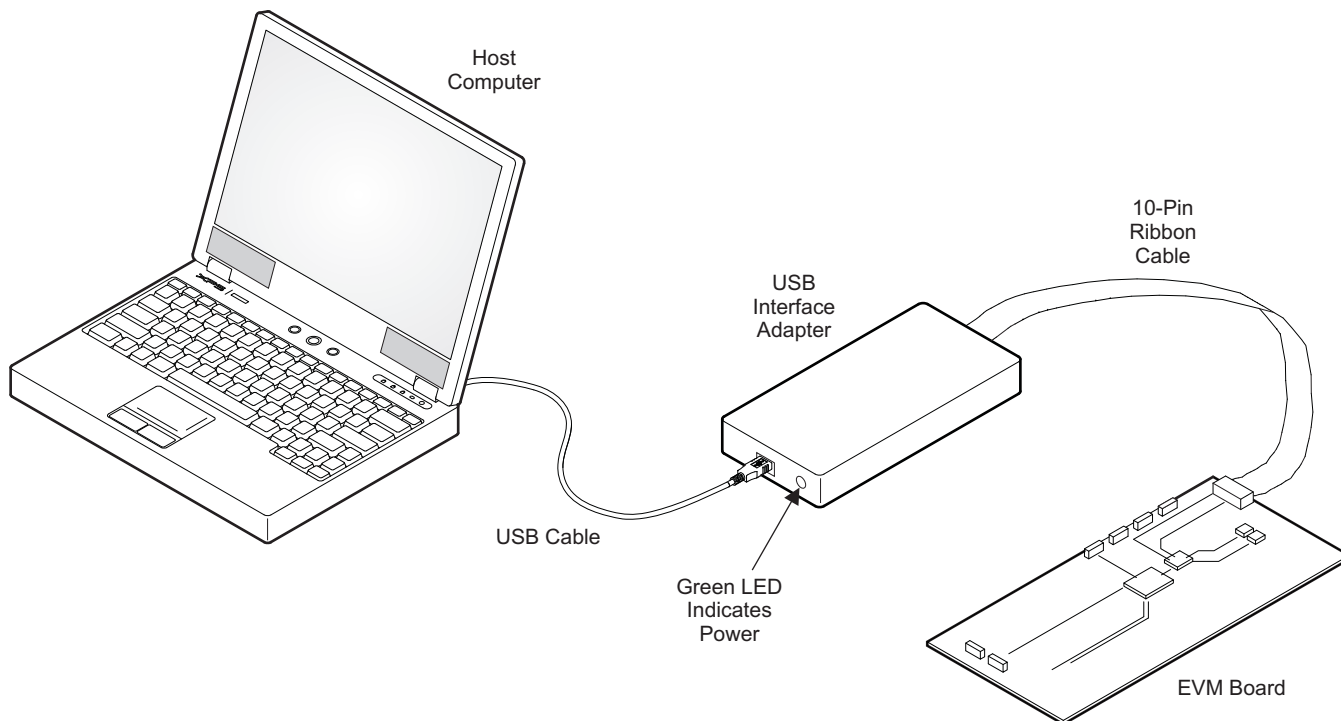

Figure 8. USB Interface Adapter Quick Connection Diagram
- Connect one end of the USB-TO-GPIO box to the PC using the USB cable and the other end to JP15 of the TPS65276V using the supplied 10-pin ribbon cable as shown in Figure 8. The connectors on the ribbon cable are keyed to prevent incorrect installation.